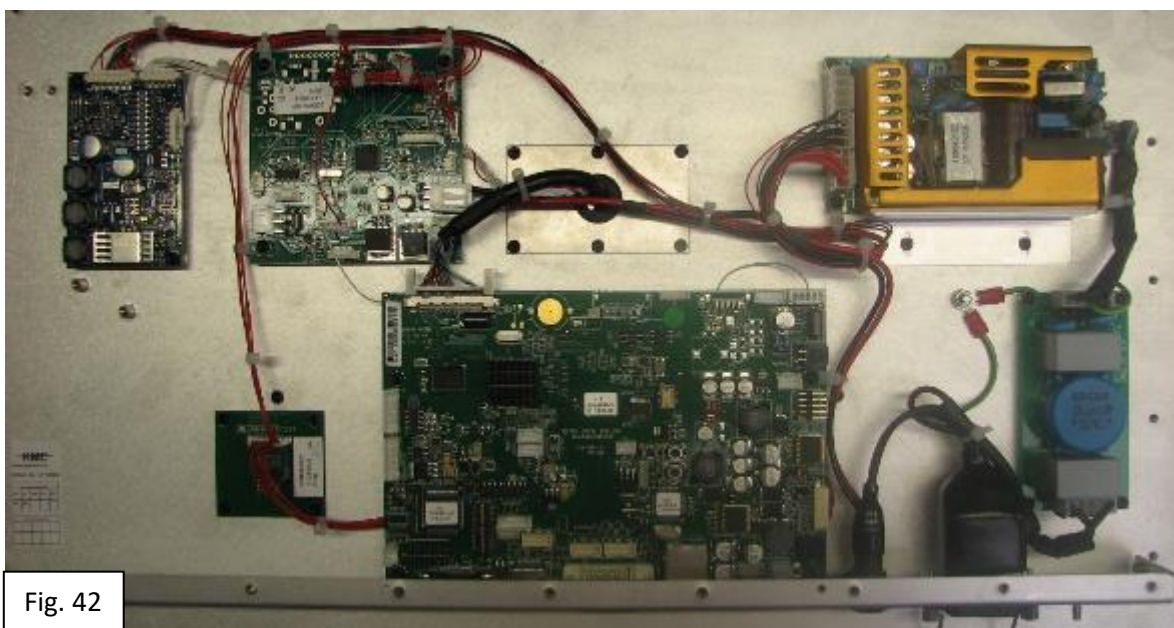

Fig. 42
- 4.4 Now using the appropriate tie wraps and three M3x10mm B/H screws (in addition to the four already loosely fitted to MIC1) dress the cables according to figure 42.